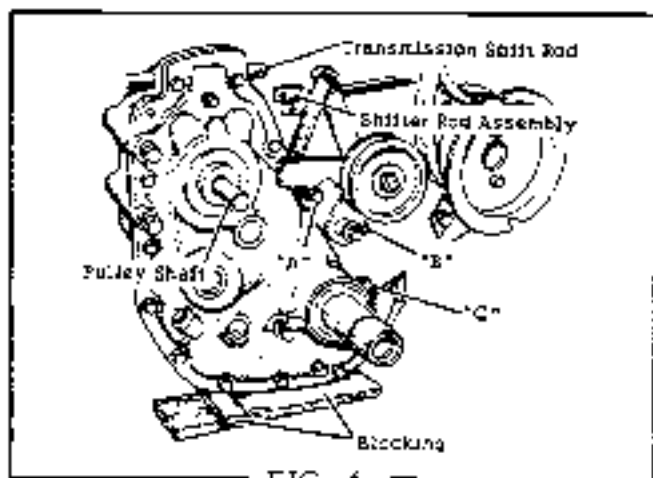

FIG. 6
10. Dis-connect the shifter rod assembly from the transmission shift rod as shown in Fig. 6.
Add blocking to support the weight of the transmission at points shown in Fig. 6.